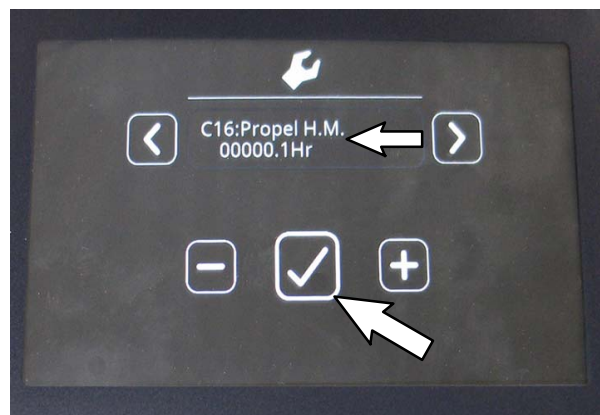

FIG. 25
21. Use the left arrow button and right arrow button to scroll to the C16: Propel H.M.. Press the Check Mark button to access the C16: Propel H.M. log in. (Fig. 25)